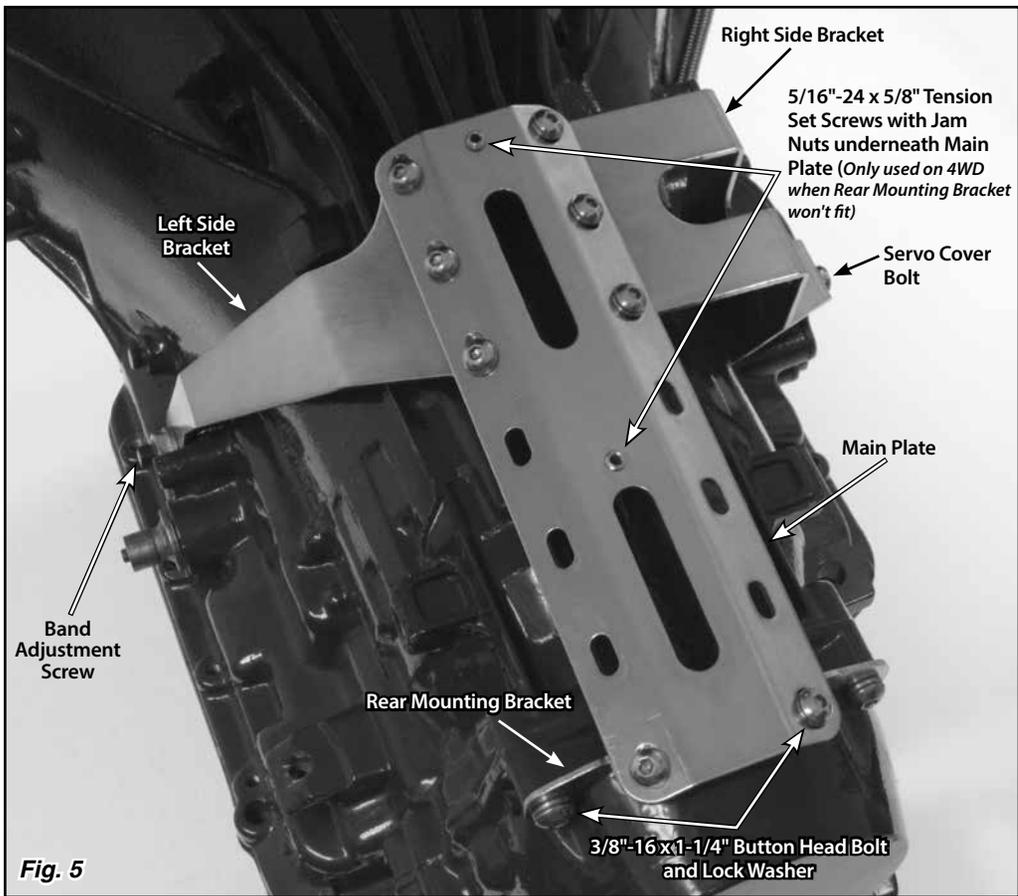

Fig. 5
**Step 6:** Place a small amount of silicone sealer around the band adjustment screw. Install the mounting bracket assembly onto the transmission by first placing the left side bracket over the band adjusting screw. Then, position the right side bracket over the servo cover bolt hole, and loosely install the servo cover bolt you removed earlier. Install the original lock nut back onto the band adjustment screw, but do not tighten yet. **Again, be sure you do not change the adjustment!** Fig. 5